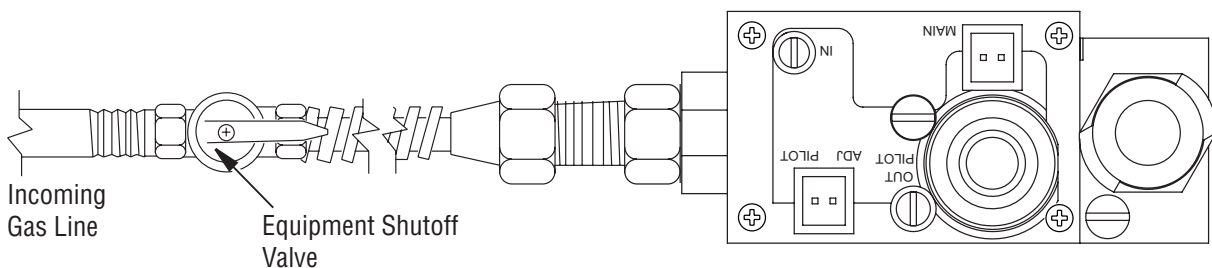

Figure 47 - Turning Equipment Shutoff Valve to the OFF Position
5. Turn equipment shutoff valve clockwise ↻ to the OFF position (see Figure 47). Do not force.
6. Wait five (5) minutes to clear out any gas. Then smell for gas, including near the floor. If you smell gas, STOP! Follow "B" in the safety information. If you don't smell gas, go to the next step.